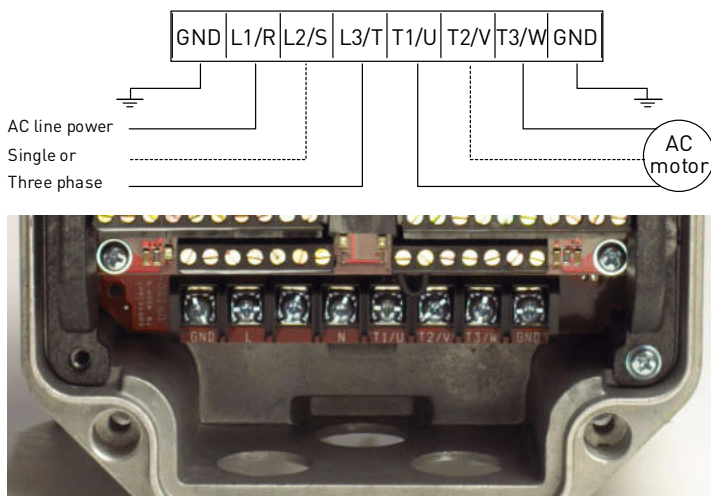

Figure 8: Power Terminals Size 0
L1/R (L) L2/S L3/T (N)	These terminals are the line connections for input power. (Single-phase 230 Vac, 0,75 to 4,0 kW models connect to any two of these terminals.) See Figure 8 on page 27.
Note that earth ground is on the terminal strip (see Figure 8 below). See page 31 for specific information about dynamic braking.